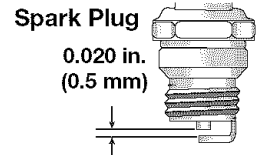

Fig. 24
- Replace a cracked, fouled or dirty spark plug. Set the air gap at **0.020 in. (0.5 mm)** using a feeler gauge (Fig. 24).